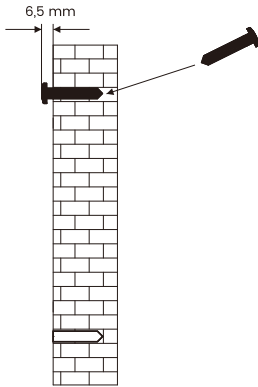
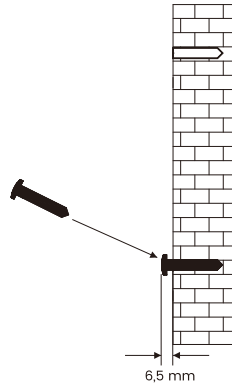

Figure 8
Figure 9
Step 5: For upright installation, nail through the upper hole and leave a length of 6.5 mm exposed (Figure 8). For upside down installation, nail through the lower hole and leave a length of 6.5 mm exposed (Figure 9). Secure the device to the wall with the nail.